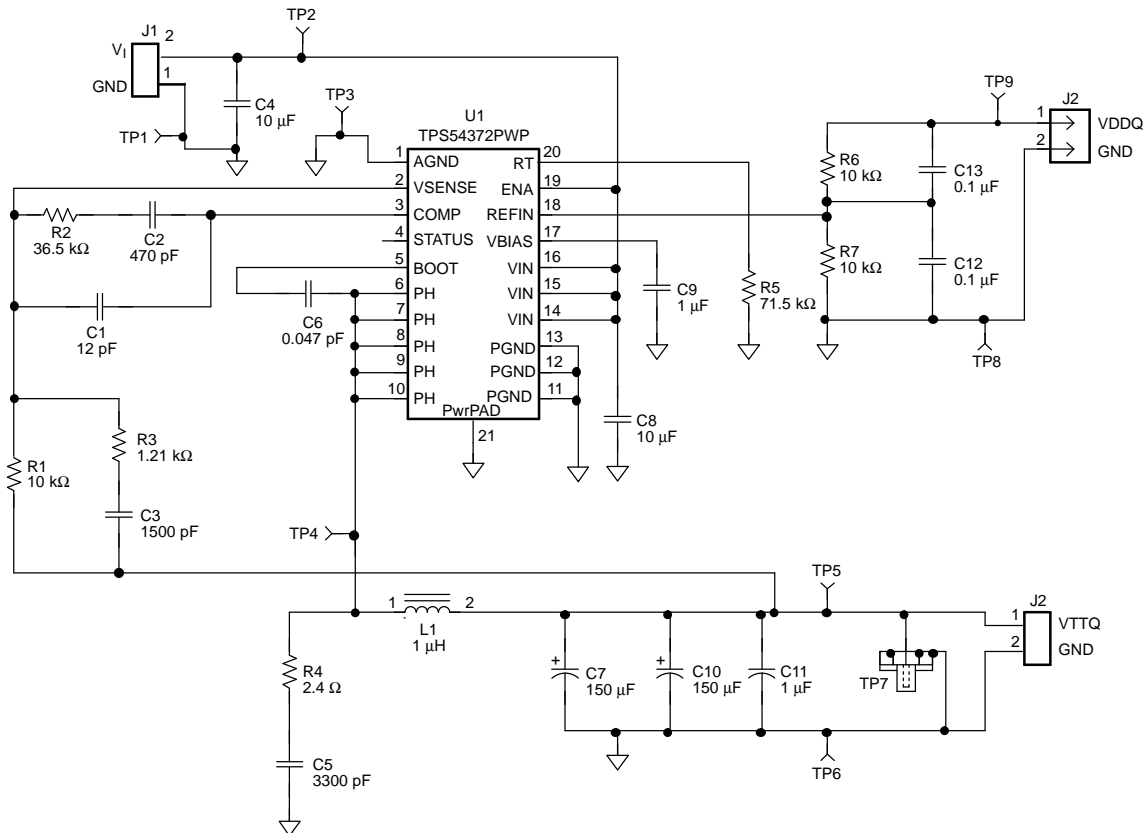

Figure 8. Application Circuit
- (1) Specified by design
(2) Static resistive loads only
(3) Specified by the circuit used in Figure 8
Figure 8 shows the schematic diagram for a typical TPS54372 application. The TPS54372 (U1) can provide up to 3 A of output current at a nominal output voltage of one half of V_{DDQ} (typically 1.25 V). For proper operation, the PowerPAD underneath the integrated circuit TPS54372 is soldered directly to the printed-circuit board.